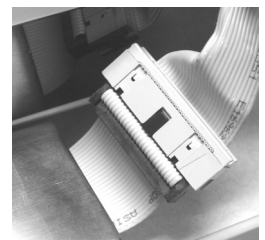

Fig. 2
4. Plug the tower data ribbon into the scale data ribbon (see fig. 2).